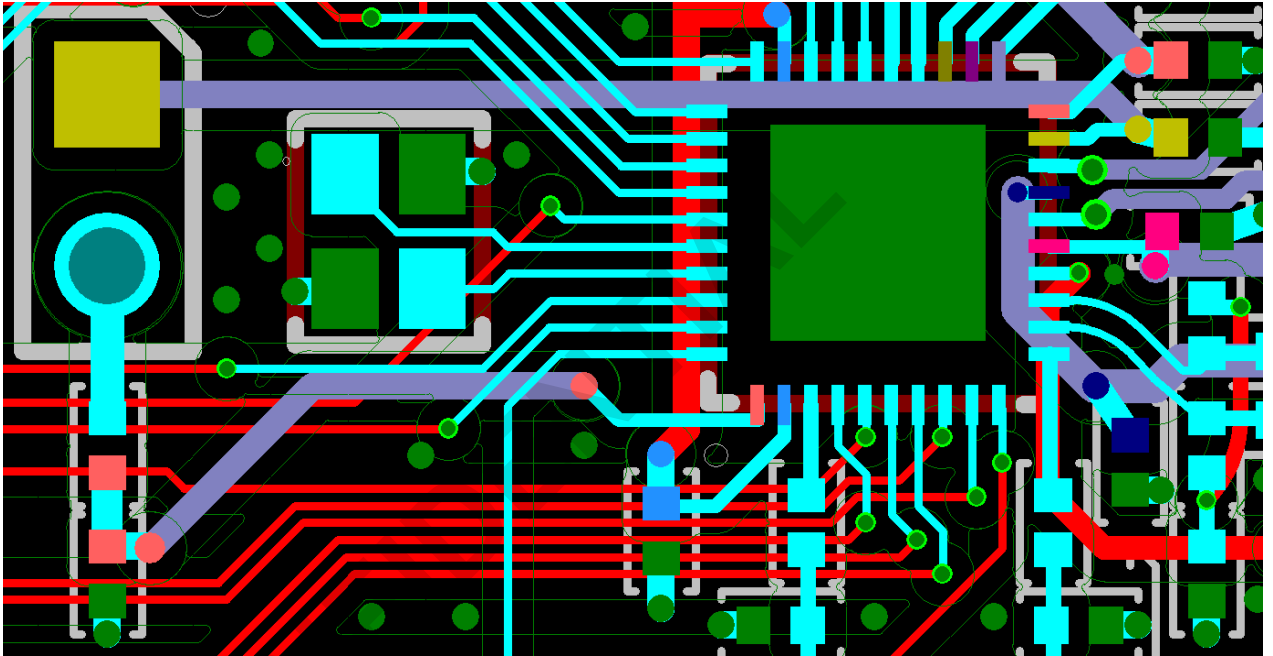

Figure 10 - AVDD1P trace Layout Recommendation for 4-layer ATMx20x PCB with Single-sided SMD Components
- In ATMx20x-based PCBs with 5x5 QFN, the AVDD1P trace can be routed as done in the EVBs, as shown in Figure 10 (see lavender trace). Notice also that this trace is routed around the crystal to avoid cutting through the crystal traces and picking up crystal noise.